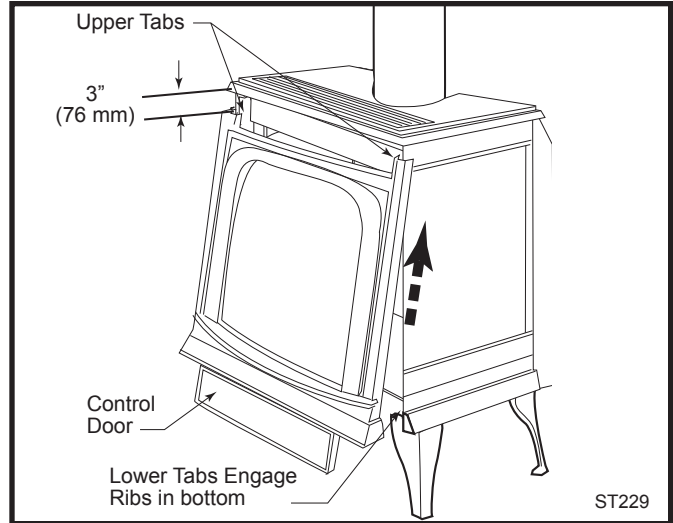
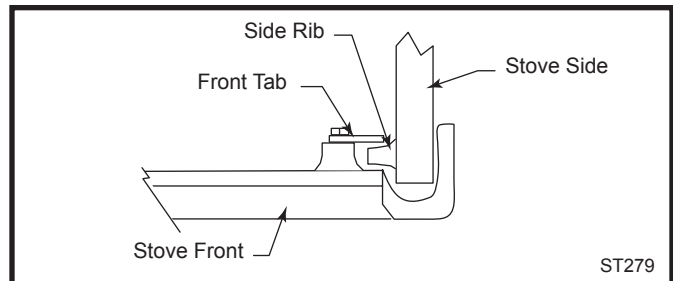

Fig. 44 Install stove front.
Fig. 45 Engage with side ribs.
The front panel attaches to the stove by four (4) steel tabs that engage with corresponding cast ribs on the sides and bottom of the stove body. Position the front about 3" down from the stove top and lift the plate to engage the upper tabs behind the adjacent ribs on the side. (Fig. 44) Then lower the plate into position, so the lower tabs engage with the corresponding ribs at the bottom. (Fig. 45)